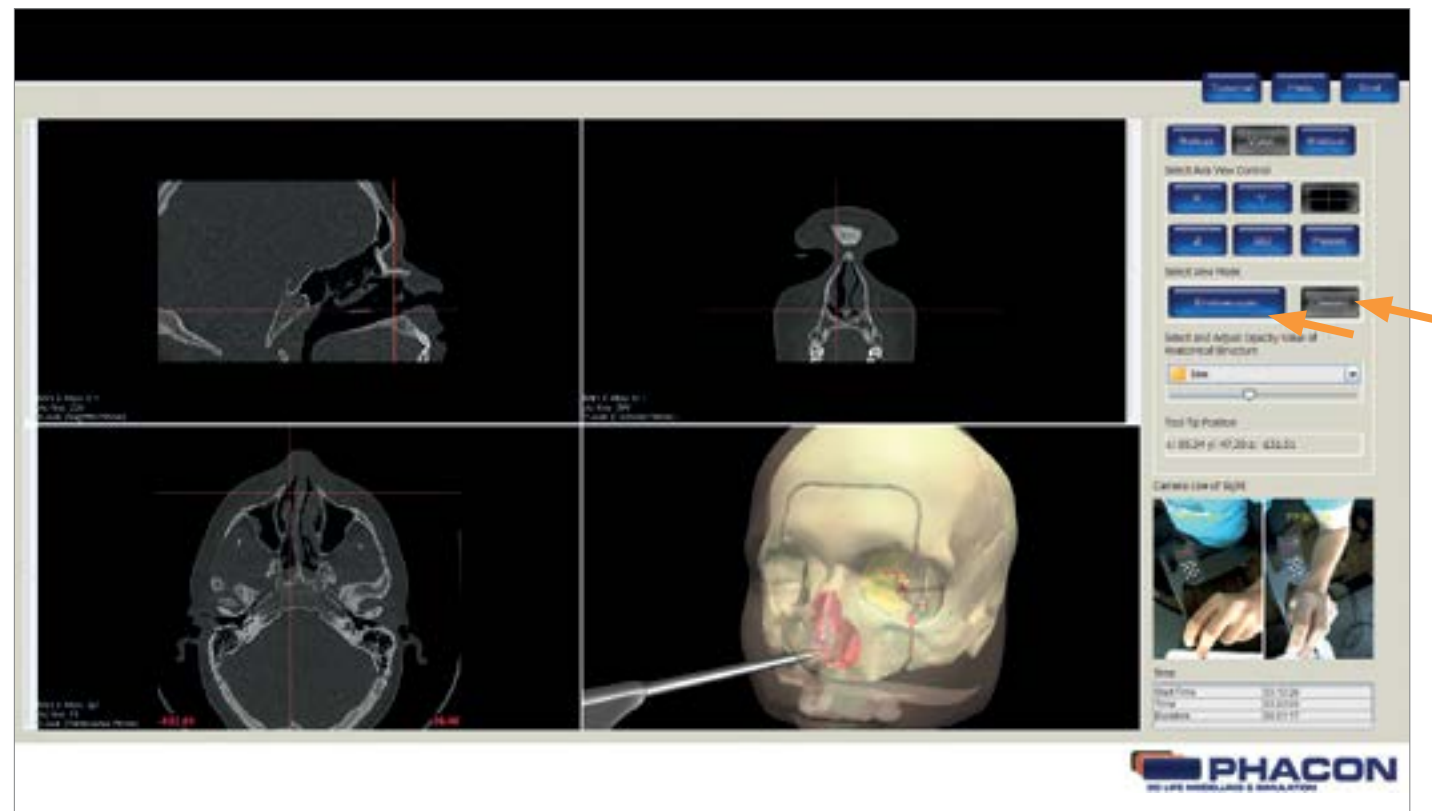

Fig.: 10
- The ENDOSCOPIC view button allows you to use a navigated tool as a virtual endoscope. (Fig. 10).